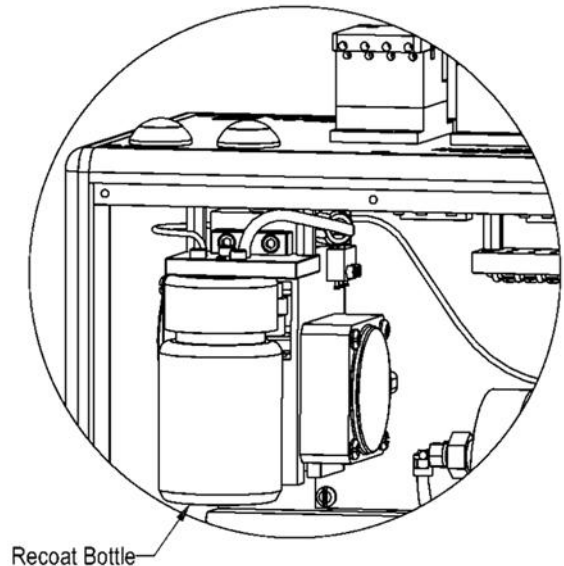

Figure 36 Recoat Bottle Access
1. Remove the front panel by removing four (4) socket head cap screws. A 3/32" hex key is provided in the tool kit.
2. Unscrew the recoat reservoir (brown bottle) shown in Figure 36 and fill 3/4 full with recoat material (ANGSTRÖMBOND® 950-200), being careful not to generate air bubbles.